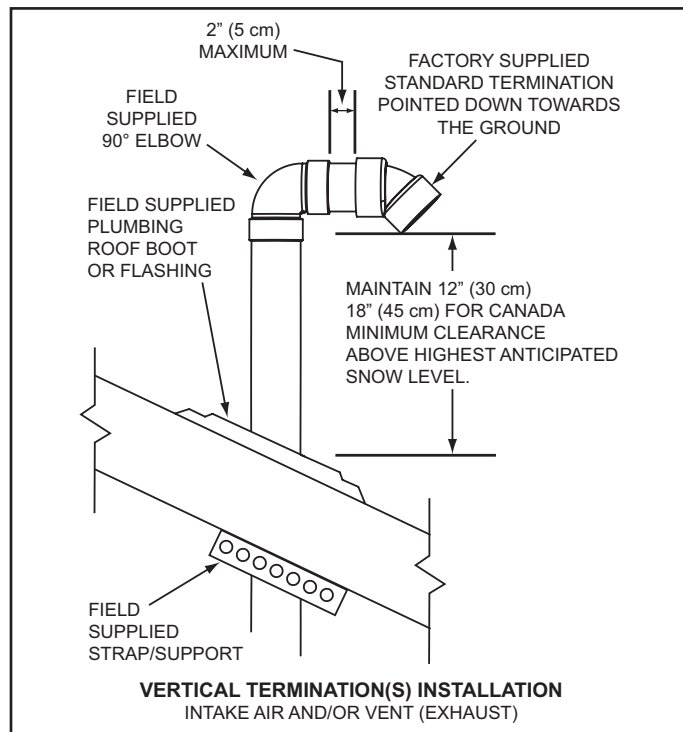
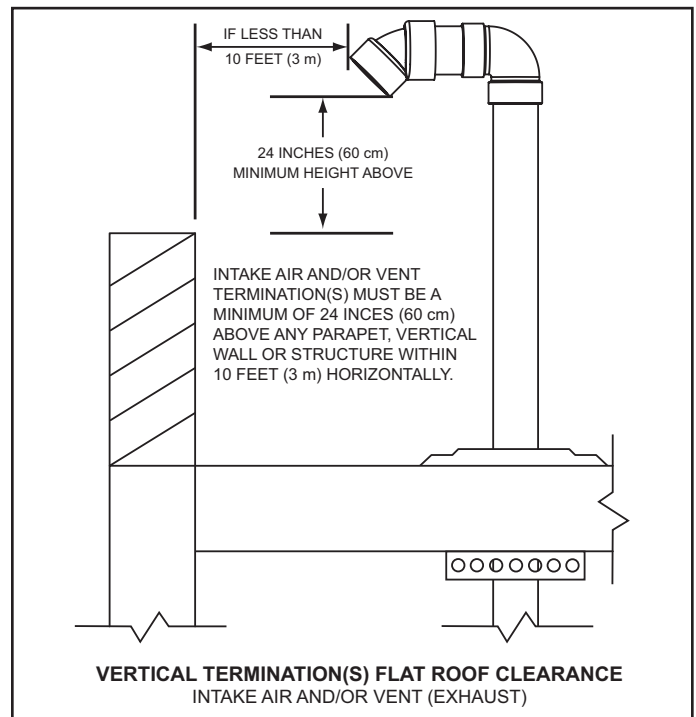
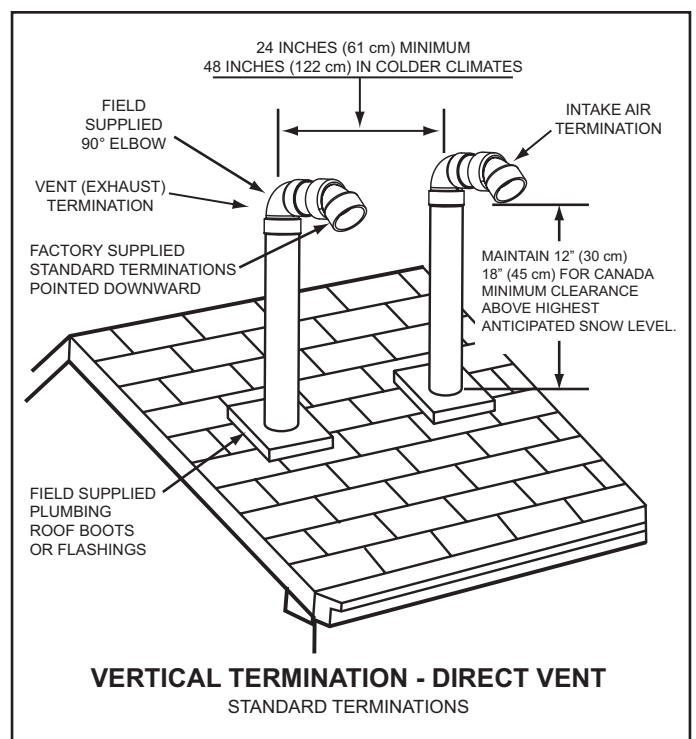

Figure 19
Figure 20
Figure 21
- If installing only the vent (exhaust) piping in a Power Vent configuration vertically through the roof; ensure that all exterior vertical clearance requirements shown in Figure 19 and Figure 20 on page 25 are being maintained. These clearances and those cited by local and national codes must be maintained.
NOTE: On flat roof installations the vent termination must be a minimum of 24 inches (60 cm) above any parapet, vertical wall or structure within 10 feet (3 m) horizontally. See Figure 20 on page 25.
- If installing both intake air and vent piping in a Direct Vent configuration vertically through the roof; ensure that all exterior vertical clearance requirements shown in Figure 19 and Figure 20 on page 25 are being maintained. These clearances and those cited by local and national codes must be maintained.
NOTE: On flat roof installations the intake air and the vent terminations must be a minimum of 24 inches (60 cm) above any parapet, vertical wall or structure within 10 feet (3 m) horizontally. See Figure 20 on page 25.
The vent termination must be oriented facing downward as shown in Figure 19 and Figure 20 on page 25.
The bottom edge of the vent termination must be a minimum of 12 inches (30 cm), 18 inches (45 cm) in Canada, above the average or expected snow level as shown in Figure 19 on page 25.
of the roof as shown in Figure 21 on page 25.
The intake air and vent terminations must be oriented facing downward and in the same direction as shown in Figure 21 on page 25.
The intake air and vent terminations must have a minimum separation of 24" (61 cm) measured on center line as shown in Figure 21 on page 25. In colder climates this separation should be increased to at least 48 inches (122 cm).
The bottom edge of the intake air and vent terminations must be a minimum of 12 inches (30 cm), 18 inches (45 cm) in Canada, above the average or expected snow level as shown in Figure 19 and Figure 21 on page 25.
The distance between the closest vent and intake air terminations must be a minimum of 24 inches (61 cm) as shown in Figure 21. In colder climates this separation should be increased to at least 48 inches (122 cm).
8. Suspend the pipe(s) through center of hole using field supplied metal strapping or equivalent support materials as shown in Figure 19.
9. Slide a roof boot or equivalent flashing over the pipe and secure roof boot or equivalent flashing to roof (see Figure 19) and seal around the flashing.
10. Install the factory supplied intake air and/or vent termination(s) using field supplied pipe and one field supplied 90° elbow as shown in Figure 19. The short section of pipe that connects between the field supplied 90° elbow and the factory supplied
termination must not be excessive in length. The exposed portion of this pipe shall be no more than 2 inches (5 cm), see Figure 19.